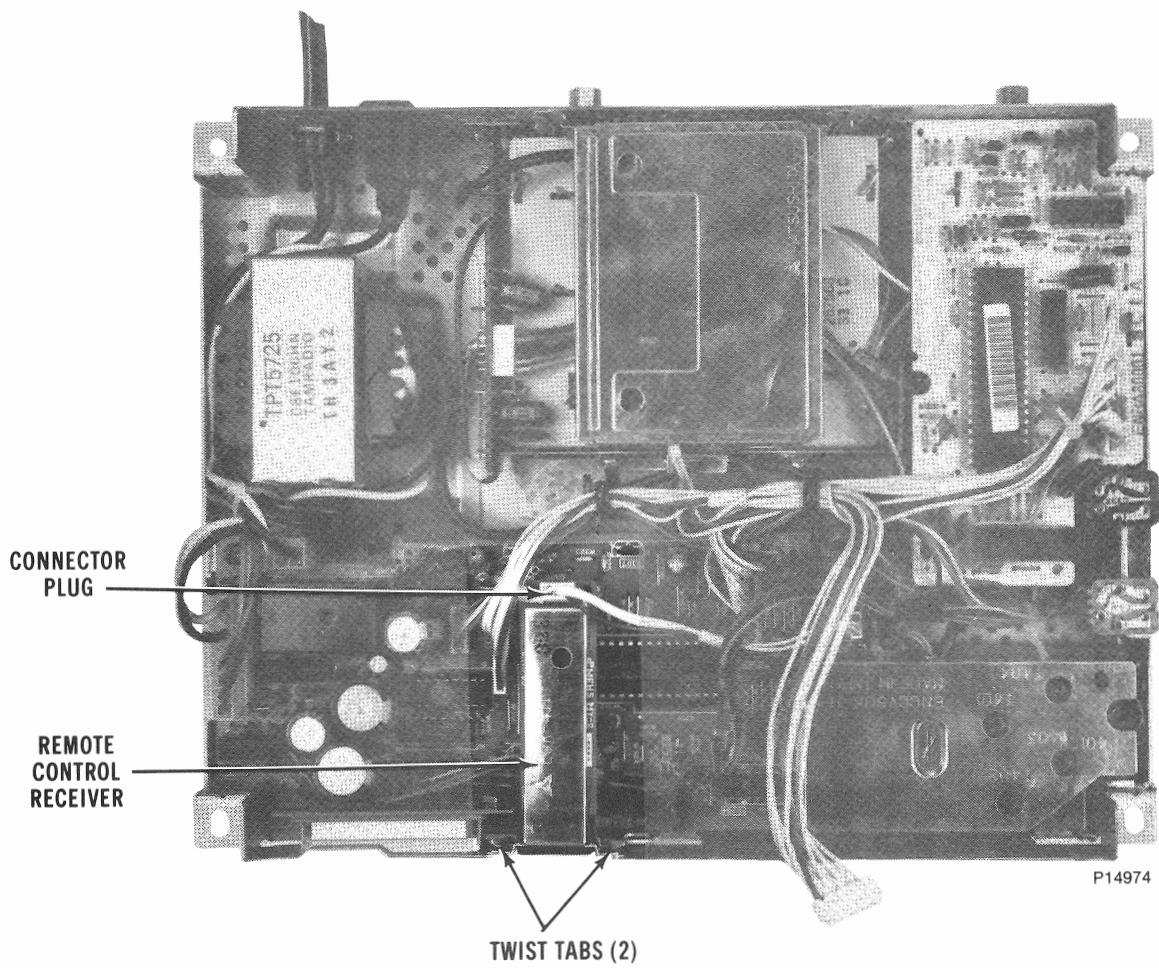

Figure 5-5. Remote Control Receiver Removal
5.3.2.5 Remote Control Receiver Removal (figure 5-5).